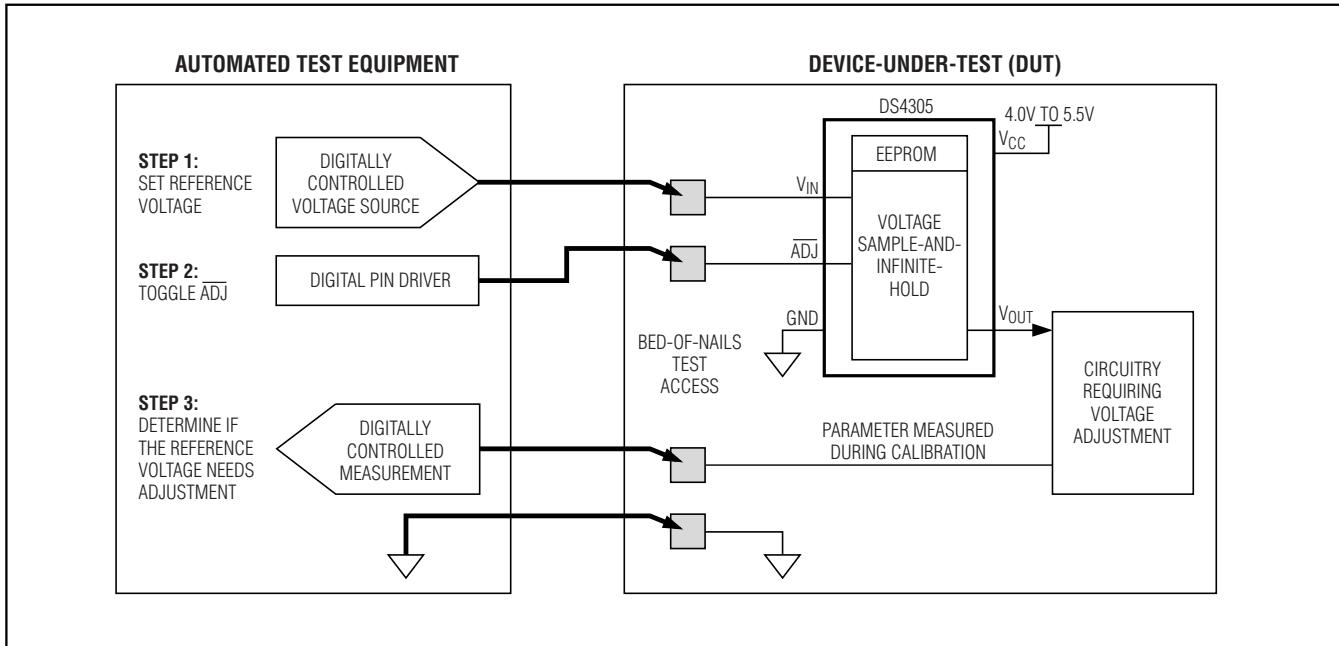

Figure 2. Application Circuit
Figure 2 details an example of how the DS4305 can be adjusted in an application. During factory alignment, a three/four-node bed-of-nails is used to: (1) provide the adjustment voltage through the  $V_{IN}$  pin, (2) control the  $\overline{ADJ}$  input, and (3) sense the needed feedback parameter. During manufacture, an automated test procedure adjusts  $V_{OUT}$  by changing  $V_{IN}$ , until the feedback parameter is optimized. After the bed-of-nails operation is complete, both the  $V_{IN}$  and  $\overline{ADJ}$  inputs are left open